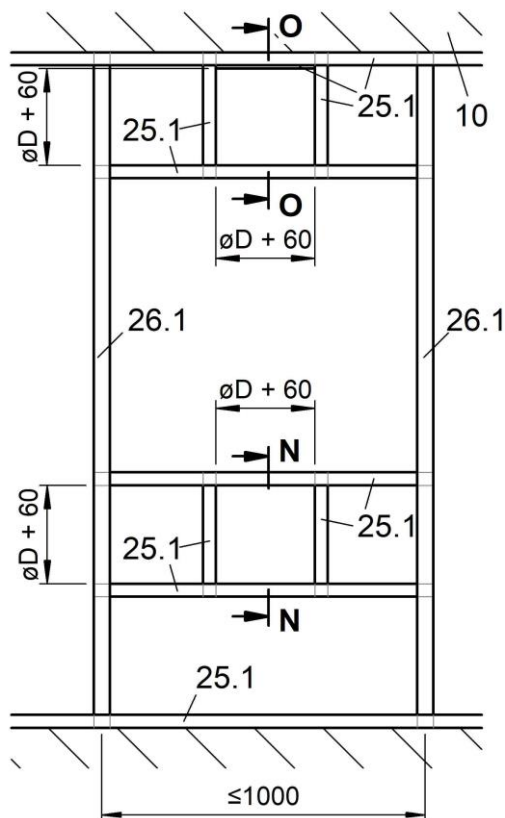

Figure 68: Metal posts plus required exchange parts (shaft wall) for wet installation (BSK-RPR 100 to ≤ 250)
- Mount the metal posts and the wall in accordance with the specifications of the wall manufacturer and the required exchange parts as shown on Figure 68.
- Mount the wall panelling (pos. 24.1) and double-board layer (pos. 34.2) and drill the installation opening for installation of the BSK-RPR.
- If desired, mount a filling stop on the non-operating side of the BSK-RPR (pos. 1) (Must not be screwed to the housing of the BSK-RPR! - The filling stop is not required by fire protection regulations).
- Carry out the joint filling with the jointing material of the wall (pos. 33). The connection and butt joints of the double-board layers must also be filled with the jointing material of the wall.
- Mount the metal posts and the wall according to the wall manufacturer's specifications and provide the exchange parts as shown on Figure 68 (mount the wall UW-profile (pos. 25.1) on the ceiling and attach the UW-profile necessary for the circumferential metal profile frame in the ceiling area).